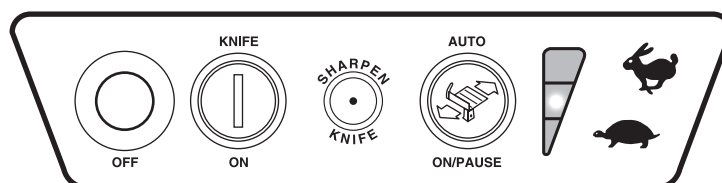

Fig. 10
- Turn the slicer on by pressing the KNIFE ON button (Fig. 10).
- Select one of the three speeds for the PRODUCT TRAY to move back and forth. Press the RABBIT symbol to increase speed; press the TURTLE symbol to decrease speed (Fig. 10). The speed indicator, located to the left of the symbols, shows which speed is selected. You can change the speed at any time.
- Press the AUTO ON / PAUSE button to start slicing (Fig. 10); the PRODUCT TRAY moves back and forth at the speed and at the stroke length you have selected.
- When done slicing, you can stop by pressing either the AUTO ON / PAUSE button or the OFF button (Fig. 10). Pressing AUTO ON/ PAUSE returns the PRODUCT TRAY to the home position (all the way toward you).
The CleanCut™ KNIFE will provide long service in normal food retail or commercial kitchen use. **Sharpen only when necessary; prolonged or too frequent sharpening results in unnecessary KNIFE wear.** The SHARPEN KNIFE indicator light (Fig. 9 or Fig. 10) will come on after a factory-preset number of slicing strokes to indicate when sharpening is needed. This number has been set to represent a typical operation. Your operation may need more frequent sharpening.
Remove the TOP KNIFE COVER and the plastic RING GUARD COVER. Turn the LATCH KNOB counterclockwise and lift the TOP KNIFE COVER and plastic RING GUARD COVER off the slicer (Figs. 5, 6 & 7). Thoroughly wash around the KNIFE and both sides of the outer rim of the KNIFE. Food debris should not be allowed to transfer from the KNIFE to the SHARPENER. Plug in the machine power cord. When SHARPEN KNIFE indicator light is on, press and hold the SHARPEN KNIFE button (Fig. 9 or Fig. 10) with your right hand while pulling the SHARPENER LEVER fully forward with your left hand (Fig. 29). The KNIFE comes on, sharpens for 15 seconds and shuts off. Release the SHARPENER LEVER. The stroke counter will automatically reset and the indicator light will turn off. To sharpen before the SHARPEN KNIFE indicator light illuminates: Follow the directions above, but instead of turning on the motor with the SHARPEN KNIFE button, press the ON button for 15 seconds. Then, release the SHARPENER LEVER and press the OFF button. Unplug the SLICER power cord. Wipe the slicer with a clean damp cloth to remove any grinding particles. Reinstall the plastic RING GUARD COVER and the TOP KNIFE COVER.